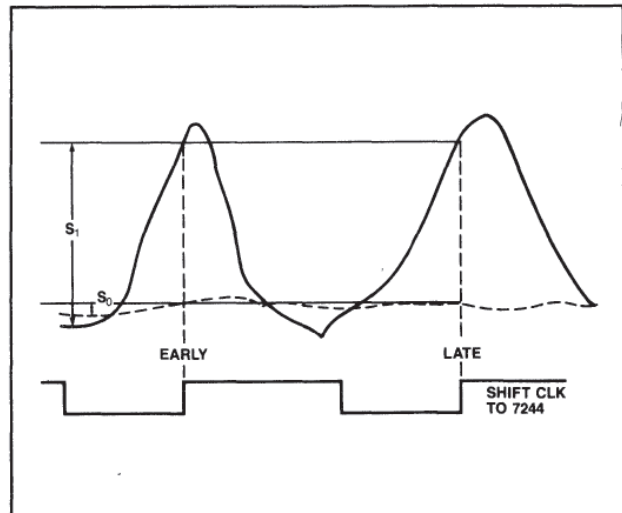
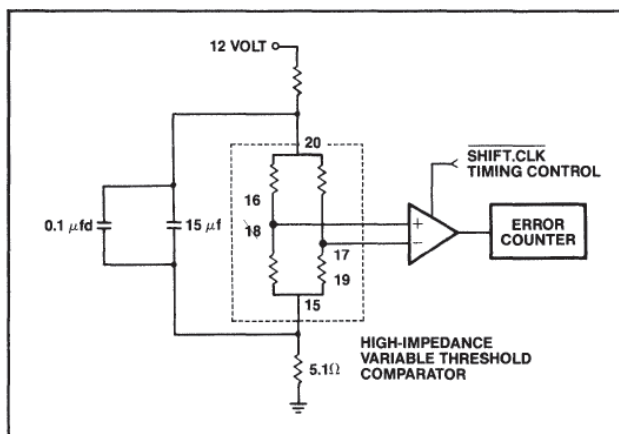

Figure 7. Detector Output Waveforms
Figure 6. Test Set-Up for Output Voltage Measurement
- 2 See Figure 6 for test set-up, and Figure 7 for detector output waveforms and timing